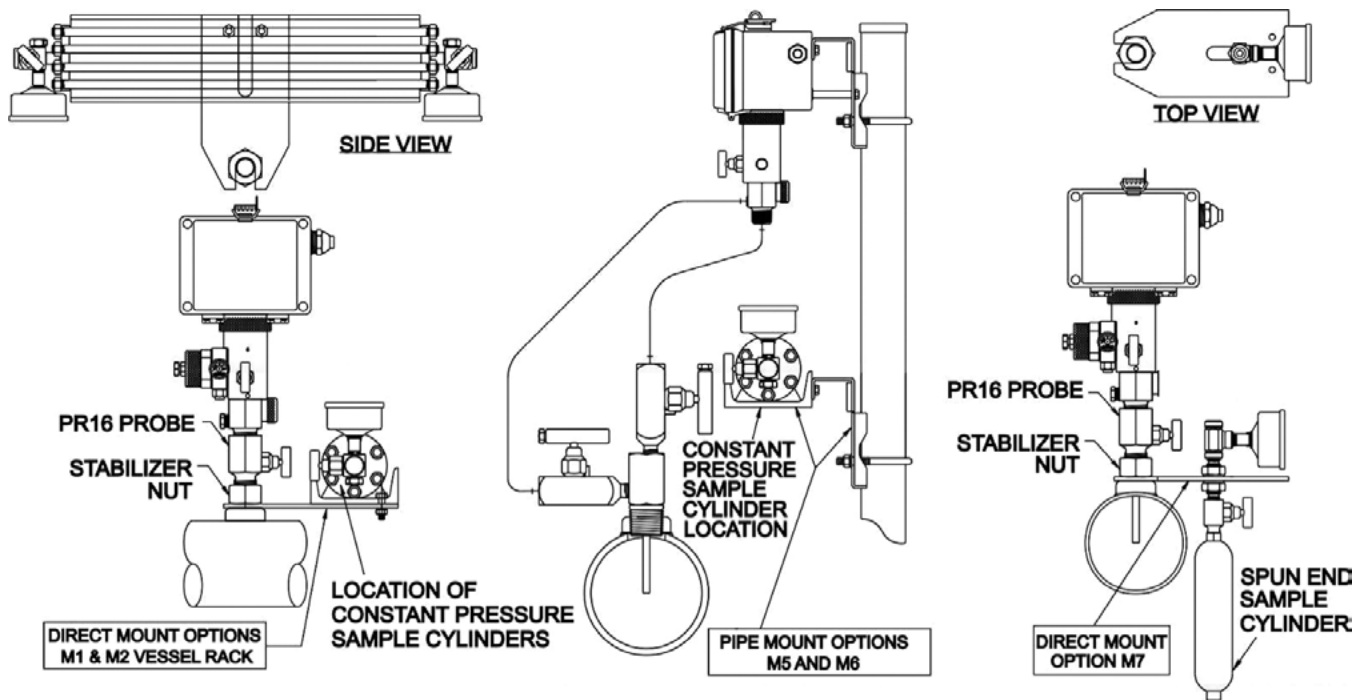

Figure 12: Optional Equipment Installation
3.1 Vessel Racks — Direct Mount (Refer to Figure 12)
3.2 Pipe Mount (Refer to Figure 12)
3.3 Spun End Bottle Bracket (Refer to Figure 12)